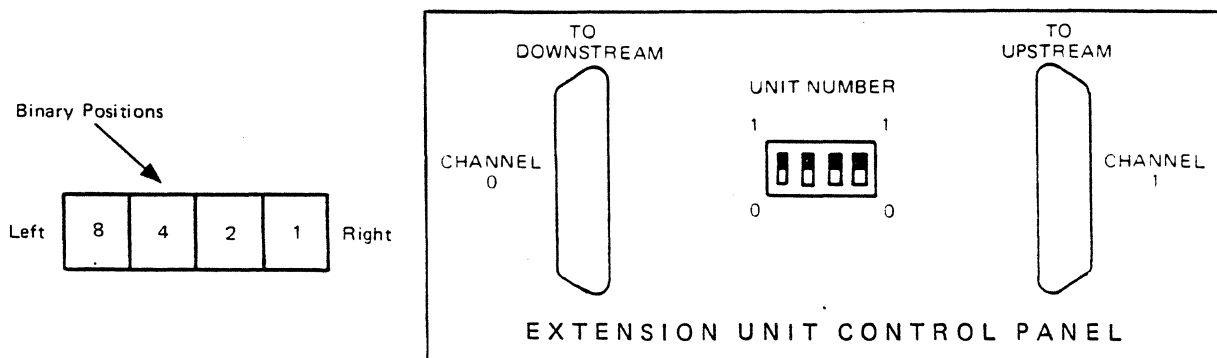

Figure 7-9. Extension Unit Control Panel with Binary Positions
8. Set the unit number switch on the Extension Unit Control panel(s) sequentially 0 through F with the base unit being 0 (Figure 7-9).